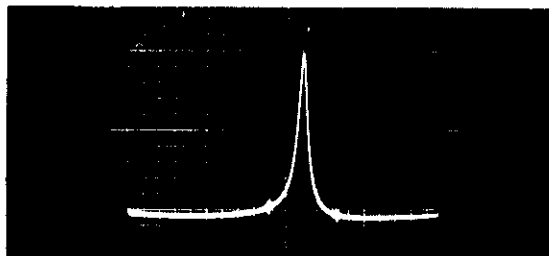

Fig. 34 "Spike" Showing Only Plate Circuit of Aural Amplifier Tuned
- b. Operate the PLATE TUNING switch 7S29 to resonate the plate circuit. Unless the TUNE (7S30) or output tuning happens to be in resonance, the response obtained by tuning the plate circuit will be a single response which can be tuned to a frequency midway between the marker signals (1.5 megacycles above and below the aural carrier frequency); see Fig. 34.
b. Operate the PLATE TUNING switch 8S28 to resonate the plate circuit. Unless the TUNE (8S27) or output tuning happens to be in resonance, the response obtained by tuning the plate circuit will be a single response which can be tuned to a frequency midway between the marker signals (0.75 megacycles below and 4.2 megacycles above the carrier frequency), a condition similar to that shown in Fig. 34.